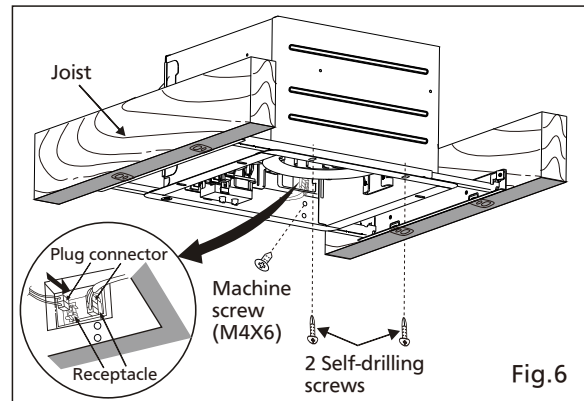

Fig.6
8. Insert fan body and slide into adaptor assy with some strength, untill the flange overlaps the Flex-Z Fast™ bracket. Secure the fan body to Flex-Z Fast™ bracket by using 2 self-drilling screws, plug connector to receptacle and secure the fan body to adaptor by using machine screw (M4X6). (Fig.6)